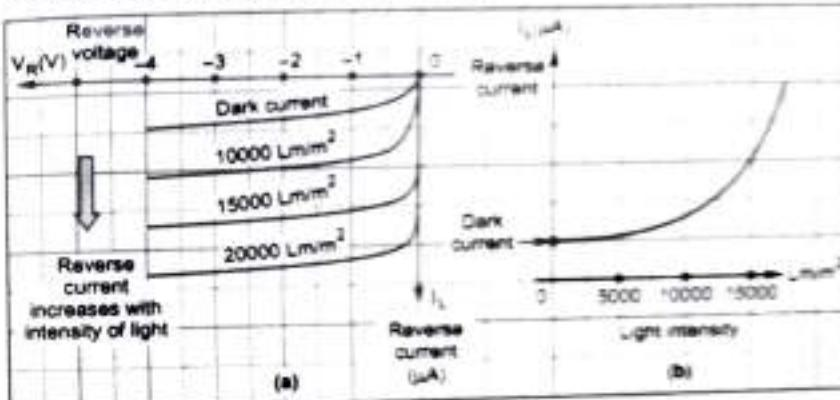

Fig. Q.44.2 Photodiode characteristics
- The Fig. Q.44.2 (a) shows the graph of reverse current and  $V_R$  for various intensities while the Fig. Q.44.2 (b) shows the graph of reverse current against light intensity.